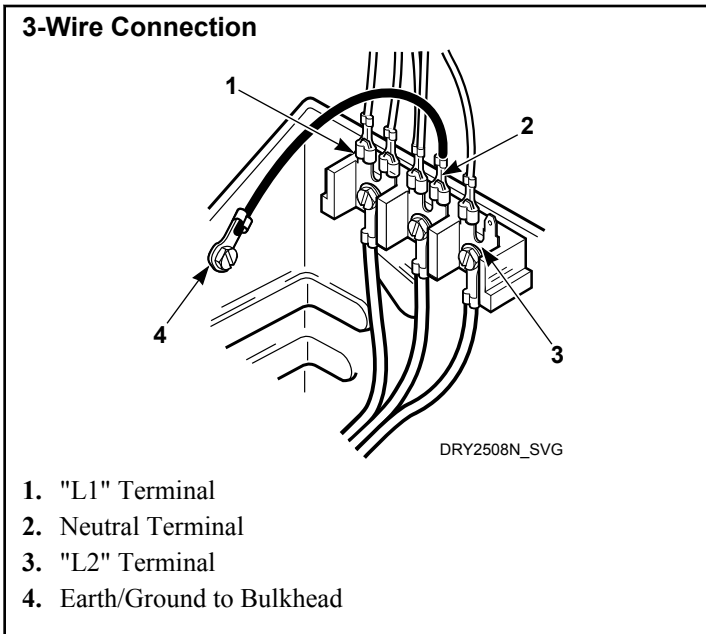

Figure 9
- Use the three screws from the accessories bag to attach the power cord wires to the terminal block. Refer to Figure 9.